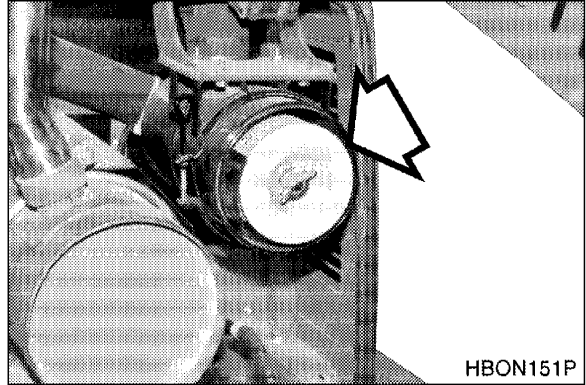

Figure 50
1. Locate the air filter assembly. Remove the access cover and filter element (Figure 50) from air cleaner assembly.